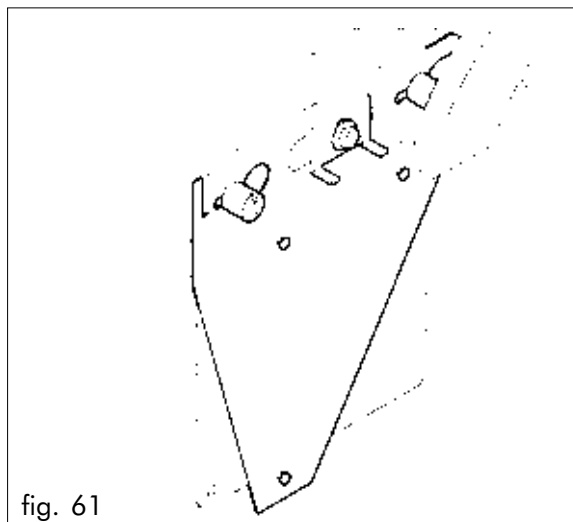

fig. 61
- Remove the support bracket from the machine (fig.61).